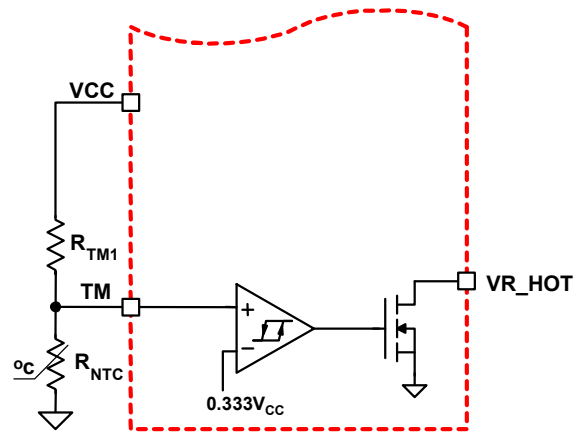
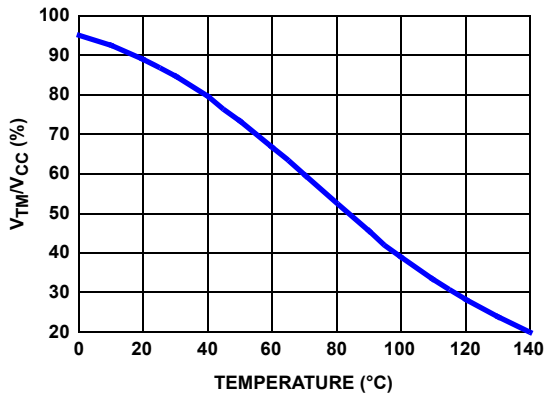

FIGURE 12. BLOCK DIAGRAM OF THERMAL MONITORING FUNCTION
FIGURE 13. THE RATIO OF TM VOLTAGE TO NTC TEMPERATURE WITH RECOMMENDED PARTS
The diagram of thermal monitoring function block is shown in Figure 12. One NTC resistor should be placed close to the power stage of the voltage regulator to sense the operational temperature, and one pull-up resistor is needed to form the voltage divider for the TM pin. As the temperature of the power stage increases, the resistance of the NTC will reduce, resulting in the reduced voltage at the TM pin. Figure 13 shows the TM voltage over the temperature for a typical design with a recommended $6.8\text{k}\Omega$ NTC (P/N: NTHS0805N02N6801 from Vishay) and $1\text{k}\Omega$ resistor R_{TM1} . We recommend using those resistors for the accurate temperature compensation.
Based on VCC voltage, ISL6334B, ISL6334C converts the TM pin voltage to a 6-bit TM digital signal for temperature compensation. With the non-linear A/D converter of ISL6334B, ISL6334C, the TM digital signal is linearly proportional to the NTC temperature. For accurate temperature compensation, the ratio of the TM voltage to the NTC temperature of the practical design should be similar to that in Figure 13.
1. Properly choose the voltage divider for the TM pin to match the TM voltage vs temperature curve with the recommended curve in Figure 13.